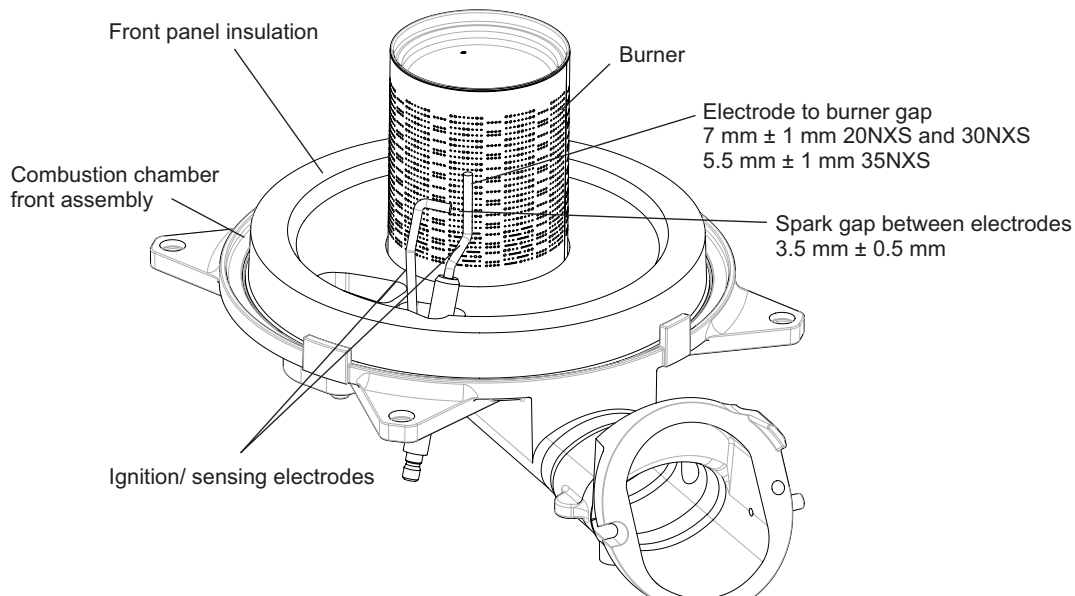

Fig. 7.5
7.3 PREPARE FOR SERVICING - Fig. 7.5